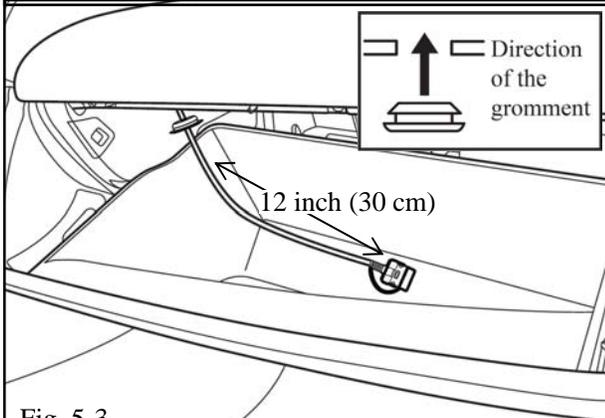

Fig. 5-3
- (d) Install the grommet to the 1.2 inch hole from inside of the glove box. (Fig. 5-3)